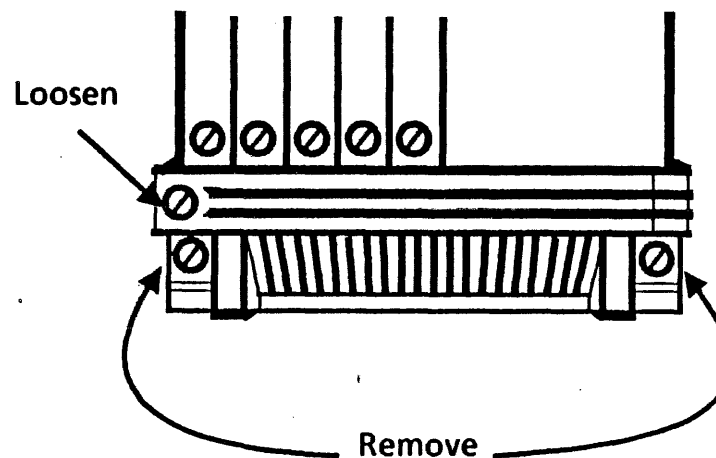

Figure 4-3 Cable Retainer Assembly
- a. Unscrew the cable retaining clamp screw (Figure 4-3) and swing the clamp away from the processor to free the cables.
- a. Unscrew the two screws (Figure 4-3) and remove the retainer.